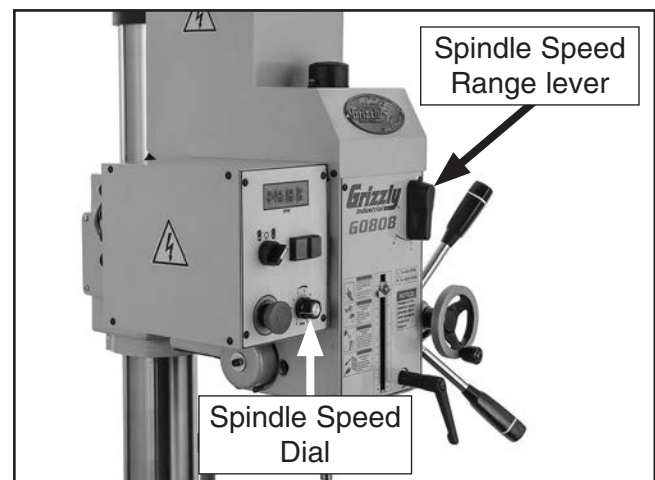

Figure 49. Spindle speed controls.
1. With spindle completely stopped, position spindle speed range lever (see **Figure 49**) to high or low ("H" or "L") range.
2. Rotate spindle speed dial (see **Figure 49**) to approximate desired spindle speed, then turn machine **ON**. If necessary, adjust spindle speed dial with machine running to fine-tune spindle speed.